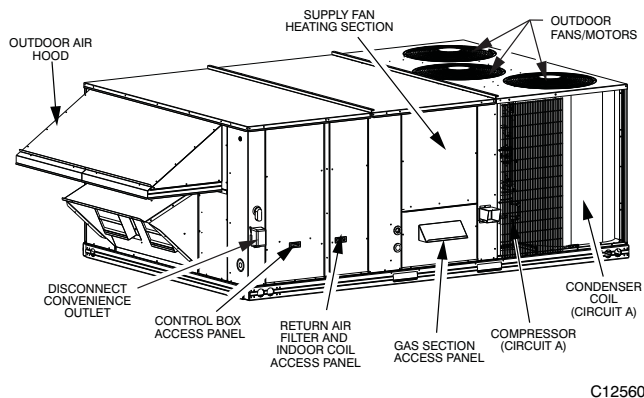
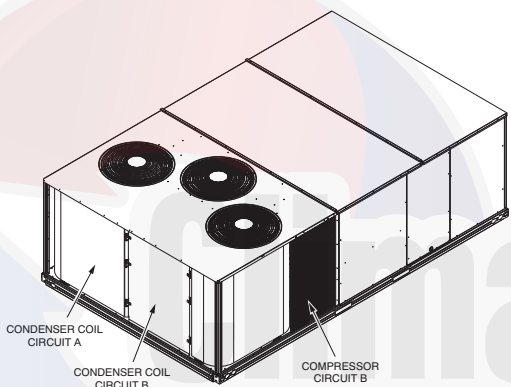

Fig. 1 – Access Panels and Components, Front
Fig. 2 – Typical Access Panel Locations, Rear
Fig. 1 and Fig. 2 show general unit arrangement and access locations.
Return air filters are disposable fiberglass media type. Access to the filters is through the small lift-out panel located on the rear side of the unit, above the evaporator/return air access panel. (See Fig. 1.)
1. Remove the return air filter and indoor coil access panel. See Fig. 1.
Outside air hood inlet screens are permanent aluminum-mesh type filters. See Fig. 2. Inspect these screens for cleanliness. Remove the screens when cleaning is required. Clean by washing with hot low-pressure water and soft detergent and replace all screens before restarting the unit. Observe the flow direction arrows on the side of each filter frame.